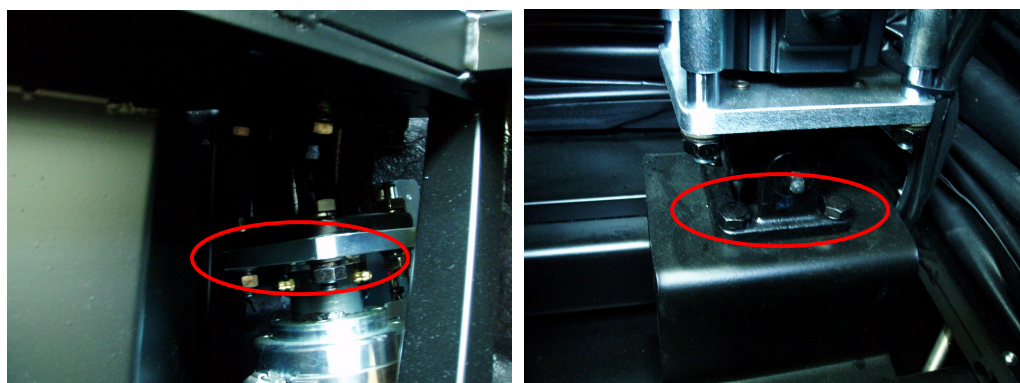

Fig. 9
9. Remove the 17mm hex bolts from the points noted in Fig 9. Replace the actuator.